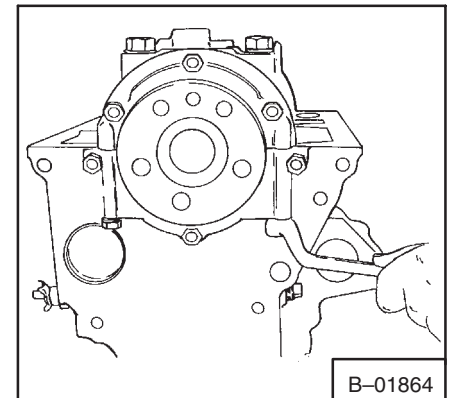

Fig. 7-40 Rear Main Seal Installation
8. Assemble the half housings around the crankshaft rear journal and fasten together by the two bolts (See Fig. 7-40).